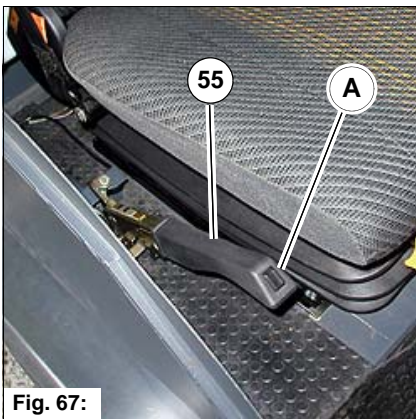

Fig. 67:
- Slightly raise the parking brake, press the knob **Fig. 67-A** on the parking brake and push the parking brake downwards.